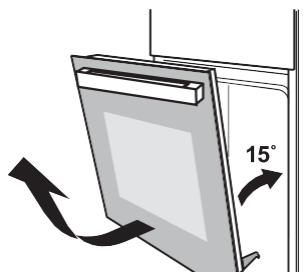

Fig. 1
4. Open the oven door. Open the hinge cover of the oven door to the maximum position (see figure 1)